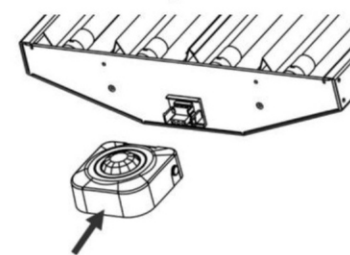

Fig.5B
- 2.Prepare the sensor part B(main sensor part)and make the sensor part A insert into sensor part B directly.(Fig.5B)